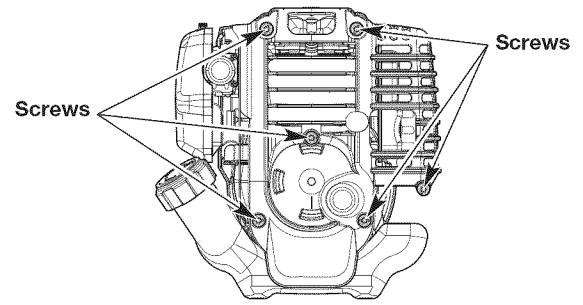

Fig. 23
1. Remove the 6 screws from the engine cover with a flat-head screwdriver or T-25 Torx screwdriver (Fig. 23). Remove the engine cover.
2. Remove the 6 screws from the engine cover with a flat-head screwdriver or T-25 Torx screwdriver (Fig. 23). Remove the engine cover.